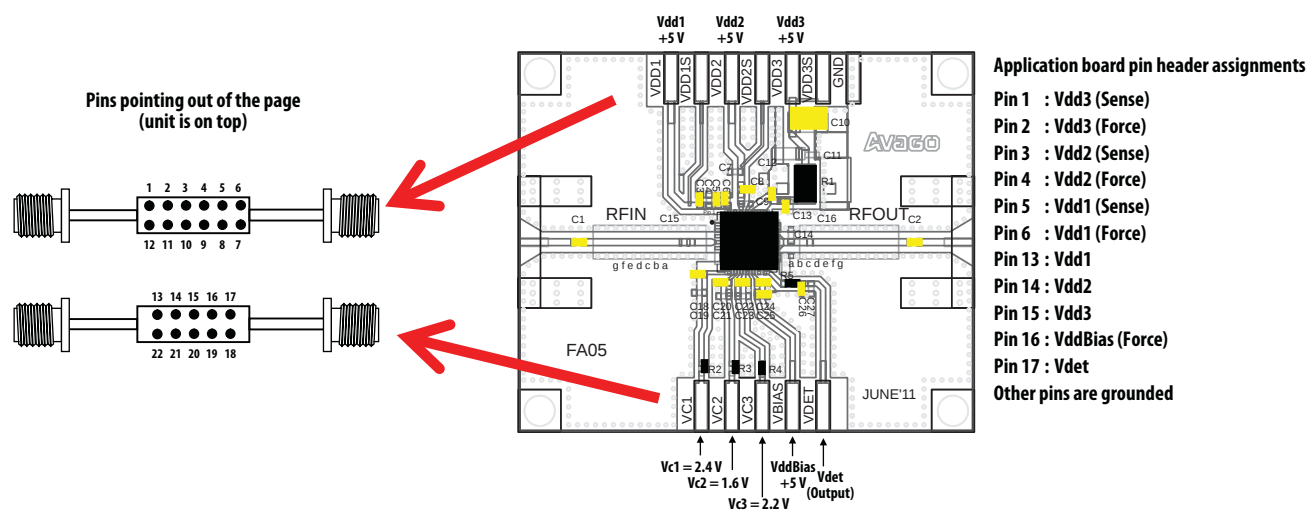

Figure 30. Demonstration board application circuit for MGA-43628 module
3. $I_{dq1} = 60.0 \text{ mA}$, $I_{dq2} = 110 \text{ mA}$, $I_{dq3} = 270.0 \text{ mA}$, $I_{V_{ddBias}} = 14.0 \text{ mA}$. $I_{dq1/2/3}$ are adjusted by voltages to CMOS-compatible control pins $Vc1/2/3$ respectively. These typical bias currents were obtained with $Vc1/2/3$ voltages in Figure 30 above. Adjustment of these currents enable optimum bias conditions to be achieved for best linearity and efficiency for a given modulation type